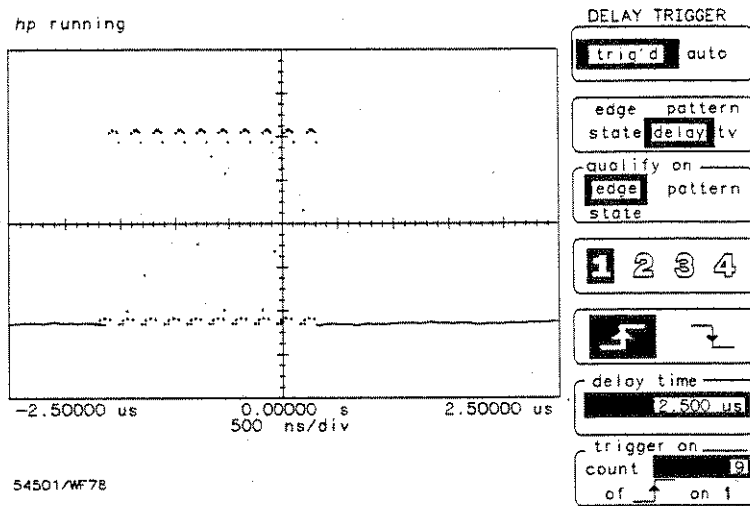

Figure 6-16. Ten Burst Pulse Triggered on Pulse 9
- Change the *trigger on count* key to 9 (see Figure 6-16).